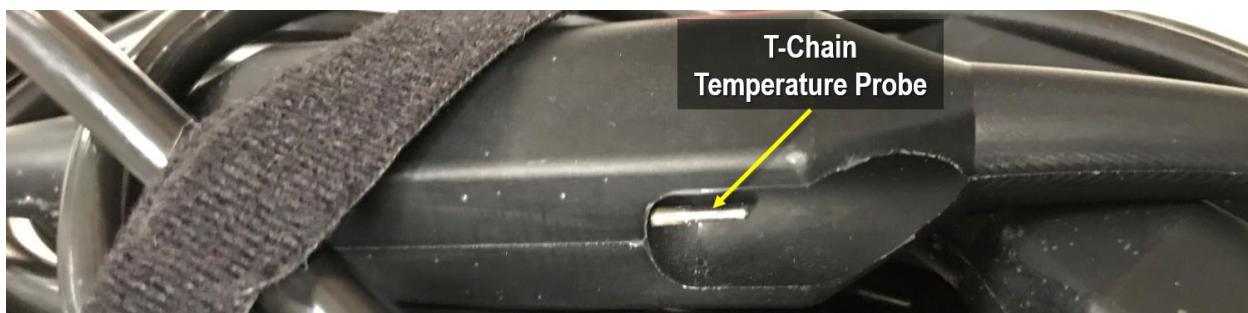

Figure 46. T-Chain Sensor – Temperature Probe
7. For the T-Chain, sensor length varies per site. Some AIS site T-chains were modified to fit site length requirements by removing the temperature probe from the chain (Figure 46). If this modification is present on your T-Chain, ensure the temperature probe holes are plugged to prevent water intrusion into the internal sensor mechanism before reinstallation.